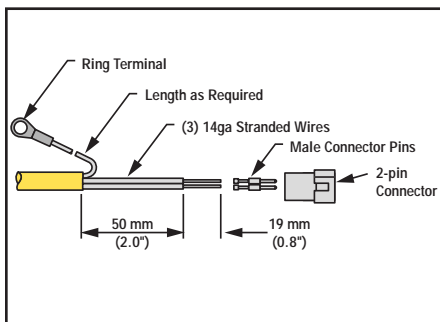

Figure 4. Assembly of Molex connector
- 2) Strip the heater supply cable insulation as shown in Figure 4. Install the ring terminal on the ground wire. Install the male connector pins on the 2 power wires, using Molex crimping tool model HTR01031E, or equivalent.
- 3) Push the power wires into the 2 male connector pins, and crimp. Insert the pins into the Molex 2-pin connector (see Figure 4). Attach the ring terminal to the hole at the upper back of the enclosure, using the supplied #10 hardware.